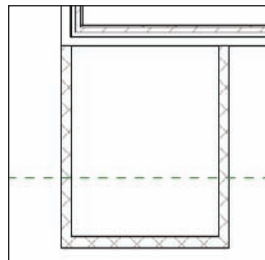

FIGURE 2.22 The elevator shaft begins to take shape.
8. Hit the Esc key. You should have three walls that look like Figure 2.22.